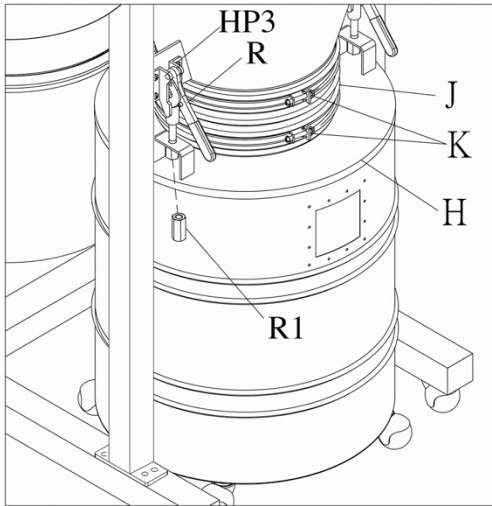

Figure 12
17. Install quick levers (R) into threaded holes on cone flanges, using screws (HP3). See Figure 12
18. Install hose (J) onto cone and drum lid and secure with two hose clamps (K) at top and bottom. See Figure 12.
21. Pull down both quick levers (R, Figure 12) then assemble drum lid (H, Figure 12) to quick
levers. Tighten long nut (R₁, Figure 12) onto each quick lever.